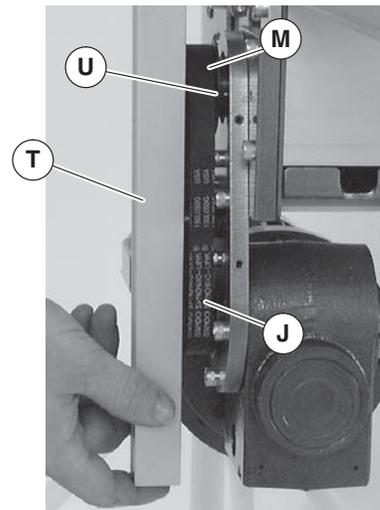

Figure 9
6. Wrap timing belt (P) around driven pulley (M) and drive pulley (J). Install driven pulley (M) onto conveyor shaft.
7. Using a straight edge (Figure 9, item T), align driven pulley (M) with drive pulley (J). Tighten driven pulley set screws (U).